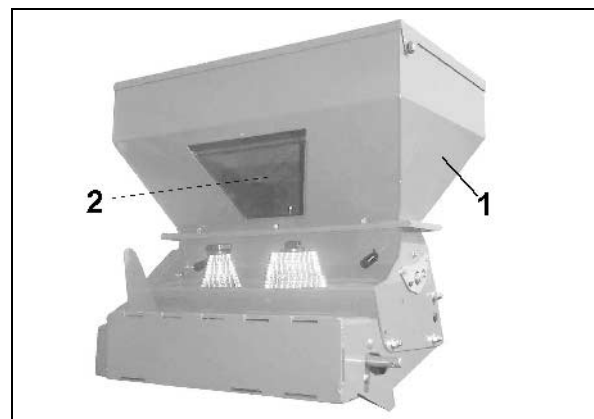

Fig. 8
Hopper (Fig. 8/1) with
- sight window (Fig. 8/2)